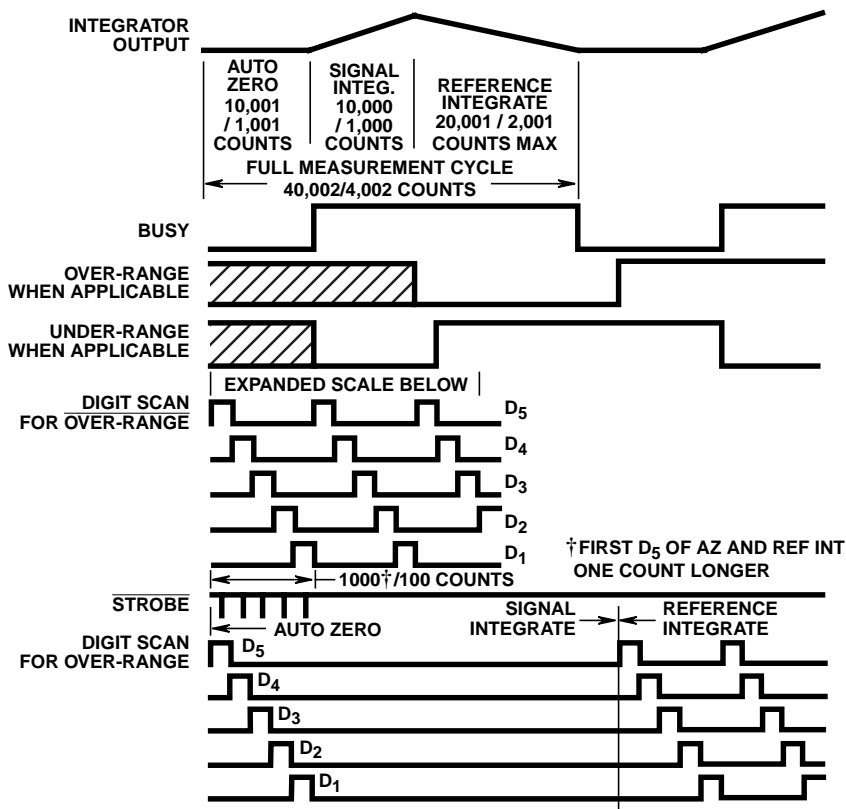

FIGURE 5. TIMING DIAGRAM FOR OUTPUTS
9. Tested in 3¹/₂ digit (2,000 count) circuit shown in Figure 5, clock frequency 12kHz. Pin 2 71C03 connected to GND.
10. Tested in 4¹/₂ digit (20,000 count) circuit shown in Figure 5, clock frequency 120kHz. Pin 2 71C03A open.